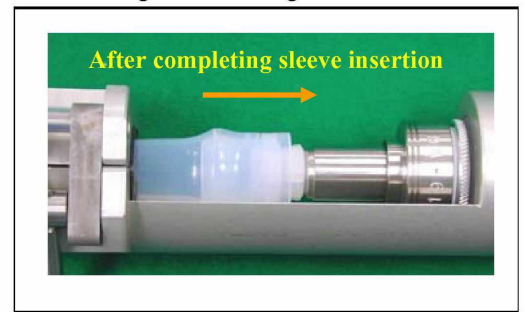

Fig. 54- Completely inserted sleeve
- Turning the grip counterclockwise will move the sleeve holder backward and unlock the diameter expansion ring. Now the inserted tube sleeve can be removed from the sleeve holder (see Fig. 54).